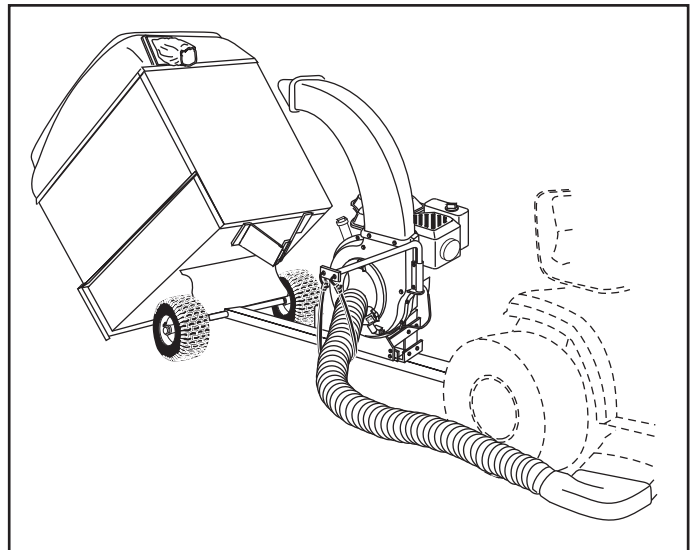

FIGURE 18
6. Release the latch holding cart down to the tongue by stepping on the foot pedal latch. See figure 18.